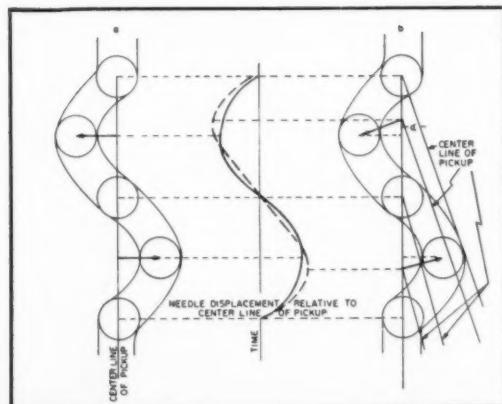

Fig. 2. Distortion caused by tracking error arrows indicate maximum stylus displacement relative to pickup.
It is evident that an arm which maintains tangency well due to its offset design may actually produce more side thrust than an arm with greater tracking error, and distortion generated by non-tangency cannot be laid primarily at the door of improper seating of the stylus in the groove. Even if the arm holds the pickup at an angle to the groove tangent, the stylus may follow the groove convolutions without error. Stylus motion in an oblique, pickup however, will not be perpendicular to the groove, and instantaneous stylus displacement relative to the longitudinal axis of the pickup will not correspond to the recorded signal. Figure 2 shows consecutive positions of stylus in two identically modulated grooves. In (A) there is no tracking error. Displacement of the stylus relative to the pickup, plotted against time, is a copy of the groove's wave form. In (B), with the stylus tip still following the groove, a tracking error of  $\pm$  results in a distorted shape of the same graph. As can be seen, maximum stylus displacement relative to the center line of the pickup occurs first too soon and then too late within the recorded period. Maximum stylus displacement across the pickup is also greater in amplitude than maximum displacement relative to the center line of the groove.